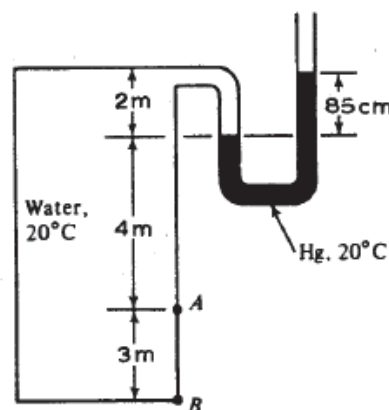

Fig. 3-29
3.37 Water in a tank is pressurized to 85 cmHg (Fig. 3-29). Determine the hydrostatic force per meter width on panel AB.